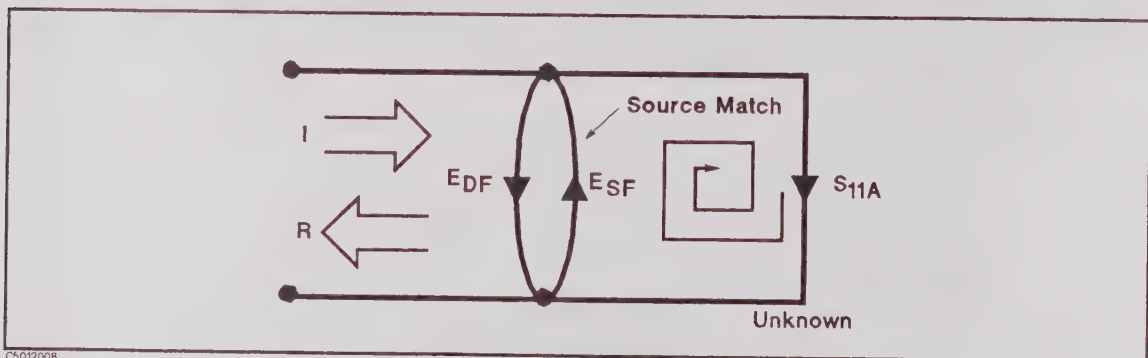

Figure A-29. Source Match E_{SF}
Source match error. Because the measurement system test port is never exactly the characteristic impedance ($50\ \Omega$ or $75\ \Omega$), some of the reflected signal is re-reflected off the test port, or other impedance transitions further down the line, and back to the unknown, adding to the original incident signal (I). This effect causes the magnitude and phase of the incident signal to vary as a function of S_{11A} and frequency. Leveling the source to produce constant (I) reduces this error, but because the source cannot be exactly leveled at the test device input, leveling cannot eliminate all power variations. This re-reflection effect and the resultant incident power variation are caused by the source match error, E_{SF} (Figure A-29).